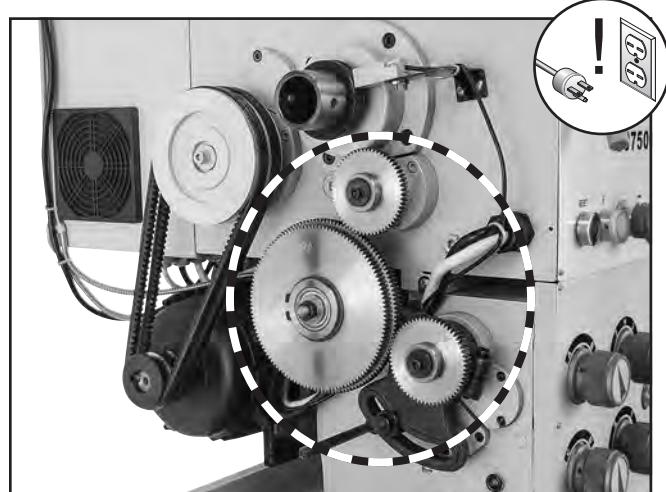

Figure 114. End gears.
The end gears, shown in **Figure 114**, should always have a thin coat of heavy grease to minimize corrosion, noise, and wear. Wipe away excess grease that could be thrown onto the V-belts and reduce optimal power transmission from the motor.
2. Remove end gear cover and all end gears shown in **Figure 114**.